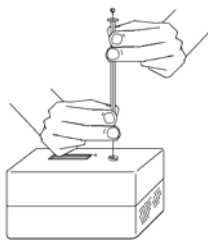

Figure 5
- e. To insert the needle of the syringe into the injection port of the Mini GC, hold the syringe with one hand and steady the needle with your other hand. Insert the needle into the injection port until the needle stop is fully seated, as shown in Figure 5. If the needle sticks, rotate it slightly while inserting. Do not move the plunger yet.